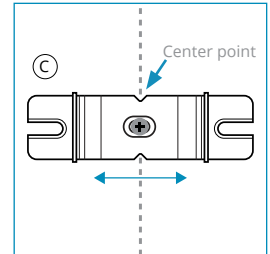

Figure 4
2. Fasten Rail Mounting Clips (C) to marked location with a mechanical fastener through center mounting hole (Figure 4). Install two Rail Mounting Clips per 24" Rail piece. Rail Mounting Clips are able to slide left or right, adding a small degree of tolerance to rail location.